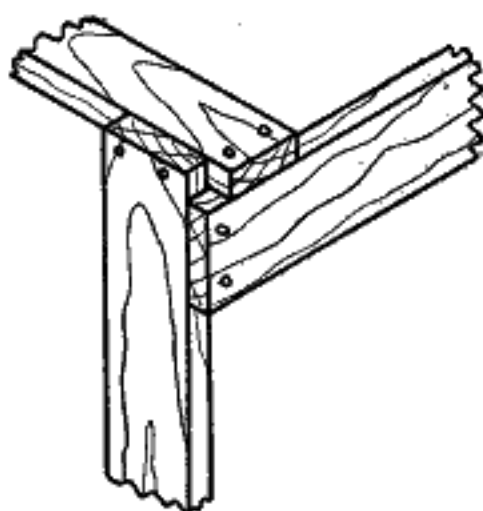

FIG. 72.—A strong nailed corner used in crating.
73. Locating the Nails.—The strength of a nailed joint depends largely on the distribution and location of the nails. Where possible, the nails should be staggered and not driven too close together nor in line with the grain. It is always good practice to nail through a thin piece into a thick one, and not through a thick piece into a thin one. A nail will hold much more if driven across the grain than if driven into end grain. Figure 72 illustrates a good method of making a crate corner.